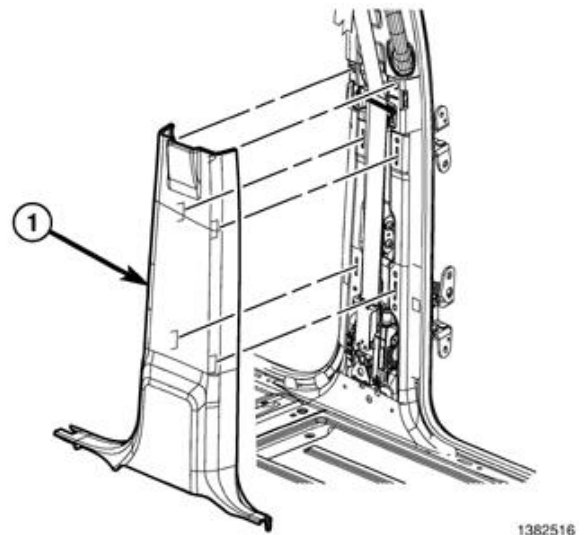

Figure 25 – B-Pillar Lower Trim Panel
10. Release the retaining clips and remove the B-pillar lower trim panel to allow for removal of the B-pillar upper trim panel (Figure 25).
65. Position the B-pillar lower trim panel and engage the retaining clips fully (Figure 25).